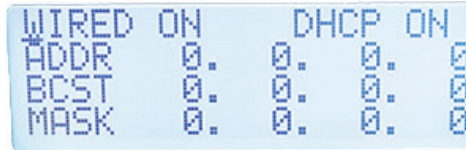

Figure 4-2 DHCP menu
4. Press the Check button (◊) to confirm the selection and display the DHCP (Dynamic Host Configuration Protocol) menu (see Figure 4-2 on page 59).